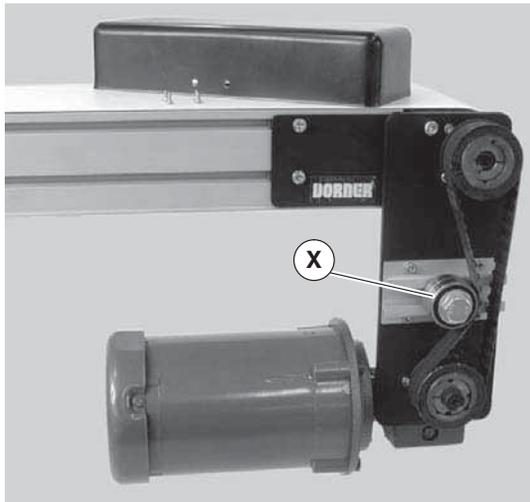

Figure 13
2. Loosen tensioner (Figure 13, item X).
3. Loosen tensioner (Figure 13, item X).